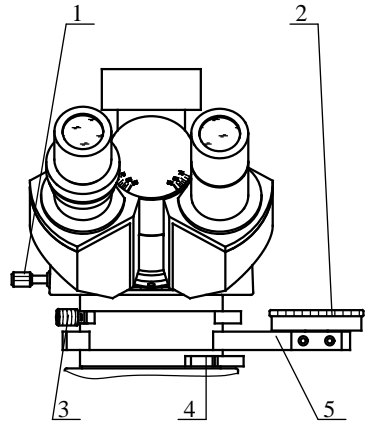

Figure 9
6. Polarization observation, see Figure 9
7. Conoscopic observation, see Figure 9